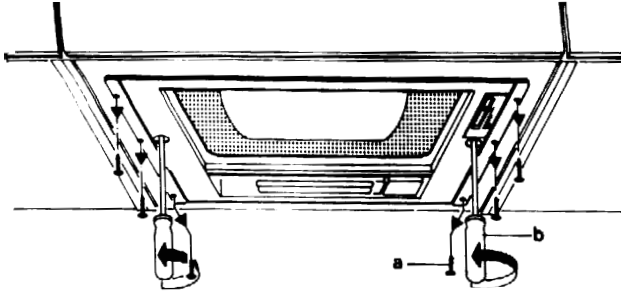

Fig. 9
- Loosen the screws on the two fixing springs. **Fig. 9**.